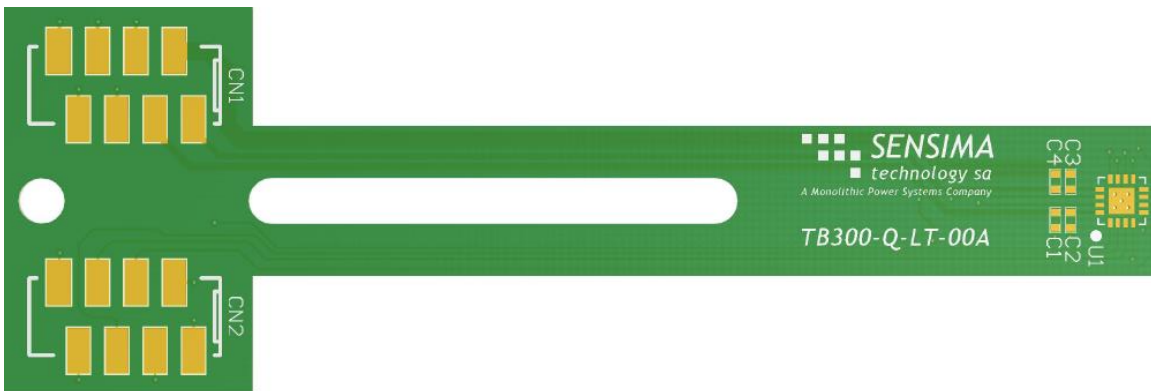

Figure 4: LT Type 1 Board Overview
Figure 4 shows an overview of the Type 1 long (LT) board.